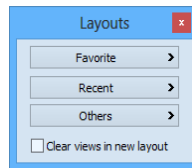

Figure 11 – Layouts tool
1. Click  **Layout** item in the main toolbar or the **Favorite**, **Recent** or **Others** buttons in the **Layouts** tool of the tools panel (see Figure 11).